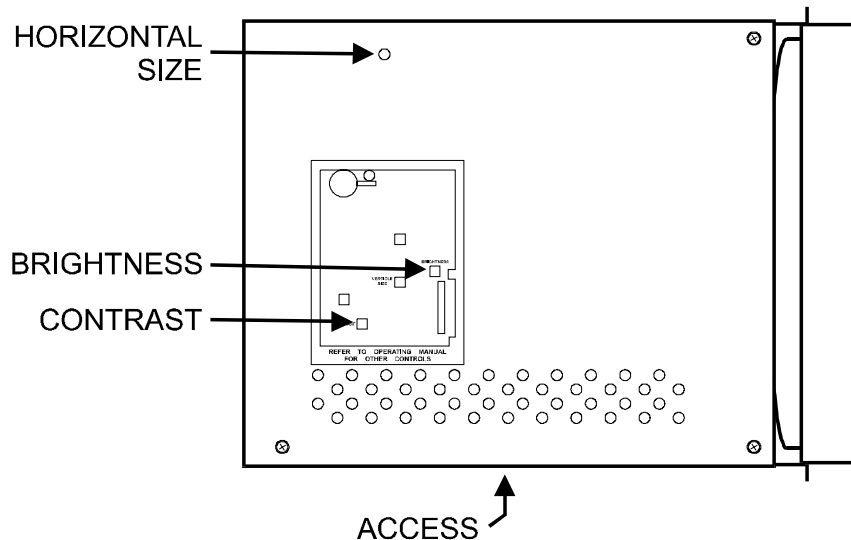

Figure 3-4. *CRT Monitor Adjustments*
- Step 1.** Refer to the locator drawing on the CRT Monitor assembly top cover and locate the brightness and contrast trim pots, accessible through the side opening (Figure 3-4).
- Step 11.** Insert a plastic or nylon hex alignment tool through the access hole (see Figure 3-4) and carefully adjust the horizontal size coil until the display is centered on the CRT.